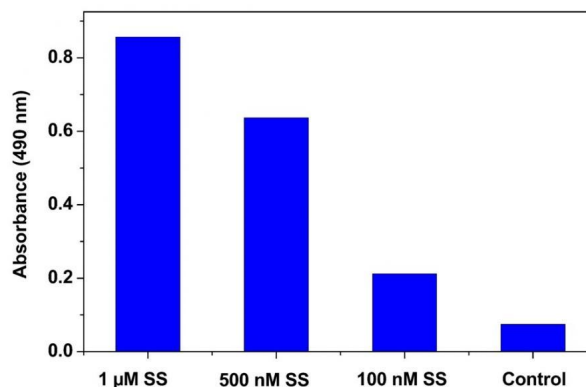

Figure 1.
(SS) for 4 hours at 37°C to induce cell apoptosis. See Figure 1 for details.